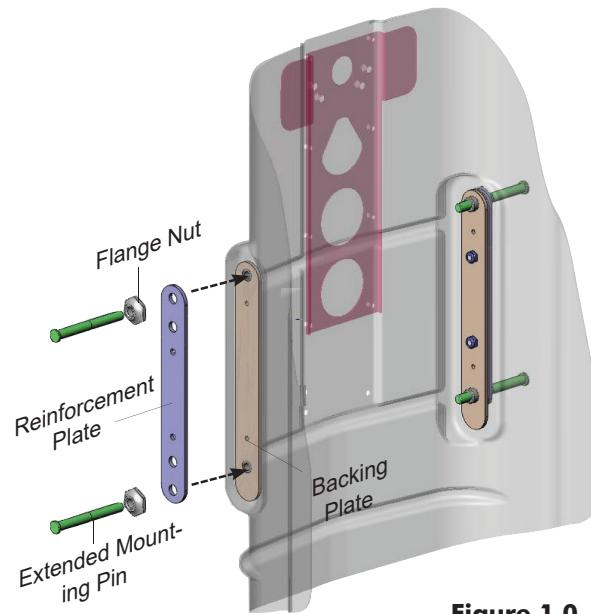

Figure 1.0
3. Working on one side of the back, place/align the reinforcement plate (provided) on the outside of the back shell as indicated in **Figure 1.0**, and manually install the new EMP's and flange nuts to hold the reinforcement plate in position.